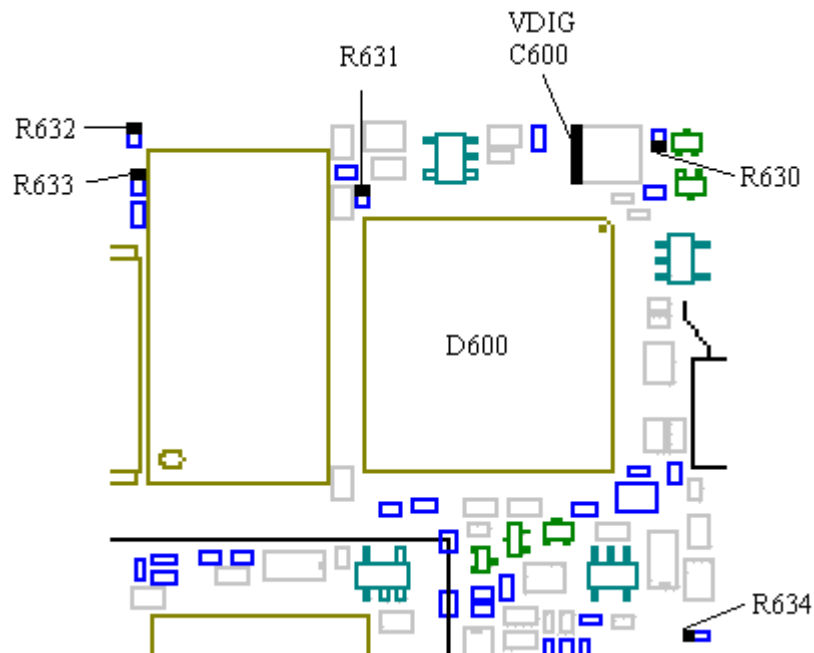

Fig. 2.5
Measure VDIG (fig. 2.5, ~3.2V).
- If it's correct, check if there's any voltage (~3.2V) at marked sides of R630, R631, R632, R633 and R634 (all in fig. 2.5).